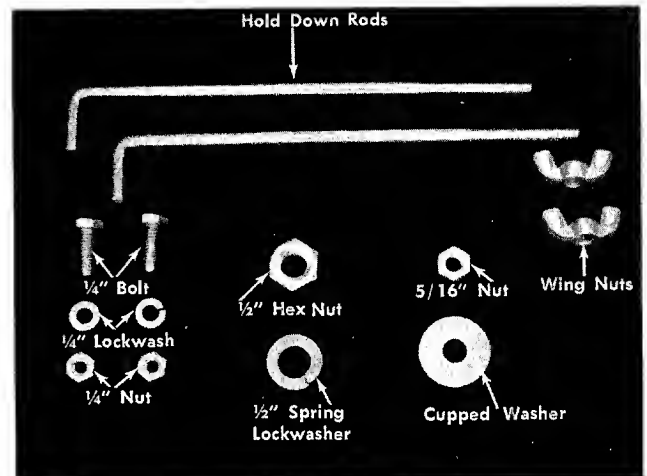

FIGURE 1.
3. Secure with the cupped washer and the 5/16" nut. See figure 1.